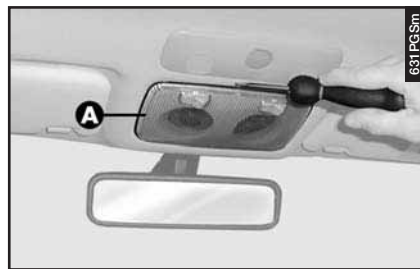

fig. 68
– Remove the roof light (**A-fig. 68**) levering in the point illustrated.